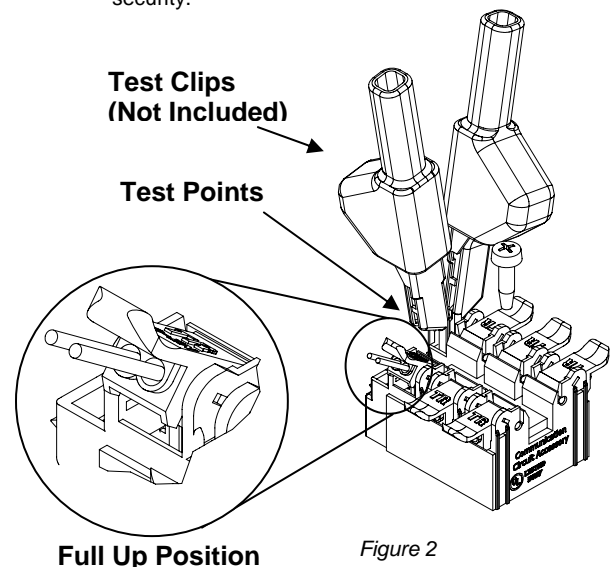

Figure 2
5. Lift the rocker of the input terminal to the full up position. DO NOT strip wires. Hold the wire pair to be terminated between thumb and index finger. Insert wires into wire guides simultaneously until they bottom-out. While holding wires in position, terminate rocker by lowering to the full DOWN position (See Figure 2).